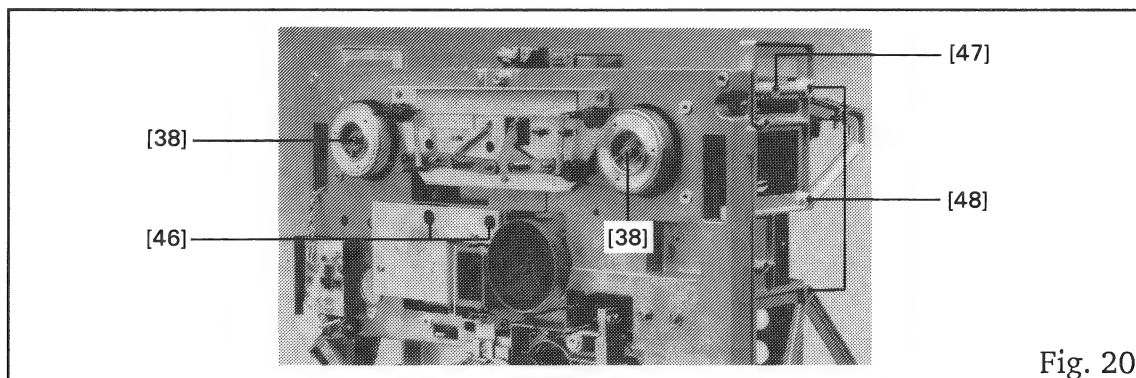

Fig. 20
- Unfasten the center screw [38] (Fig. 20) at both brake drums. Disengage the brake bands by pressing against the brake solenoid and carefully lift off the brake drums together with the driver plates.